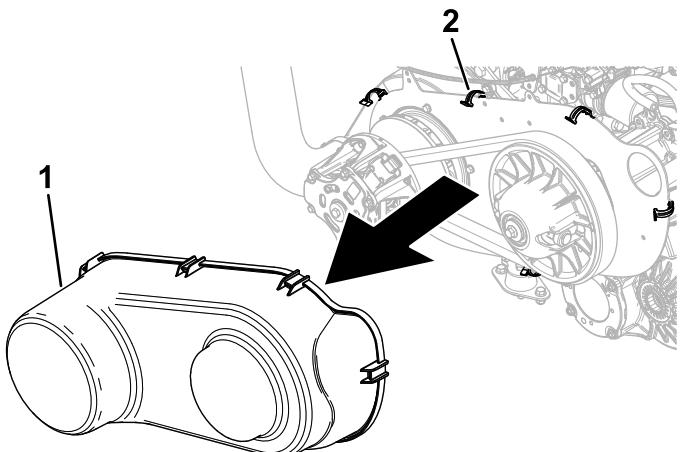

Figure 86
5. Unlatch the 6 spring clips securing the belt cover and remove the cover (Figure 86).
8. Install the belt cover (Figure 86).
10. Install the belt cover (Figure 86).